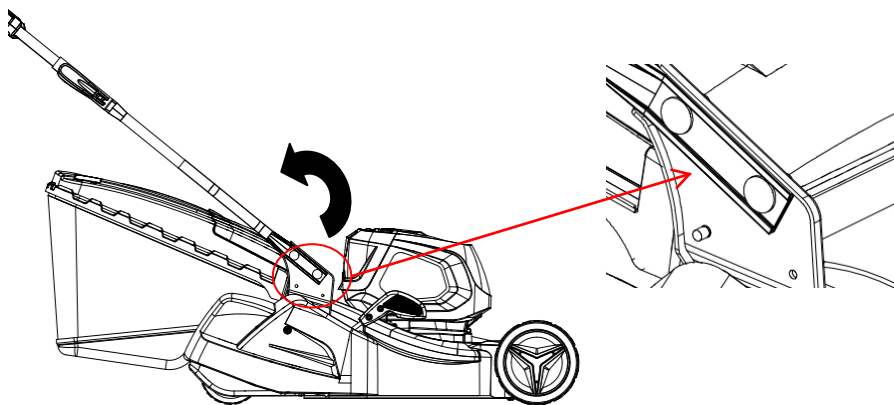

Fig.2A
1. Pivot the lower handle from storage position to the working position and fix the lower handle with bolts.(Fig.2A)